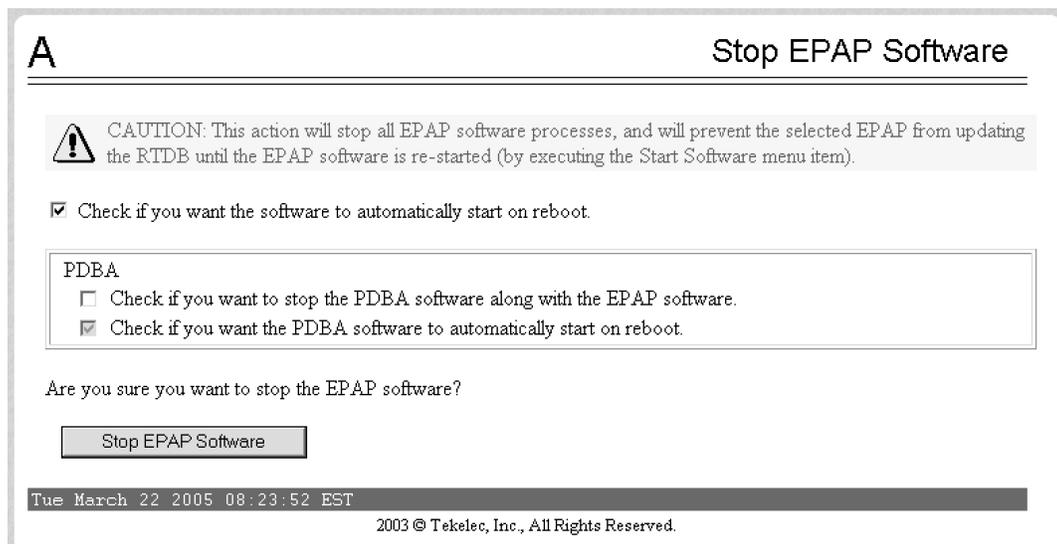

Figure 19: Stop EPAP Software
4. Select **Process Control>Stop Software** to ensure that no other updates are occurring. The screen in Figure 19: Stop EPAP Software displays: